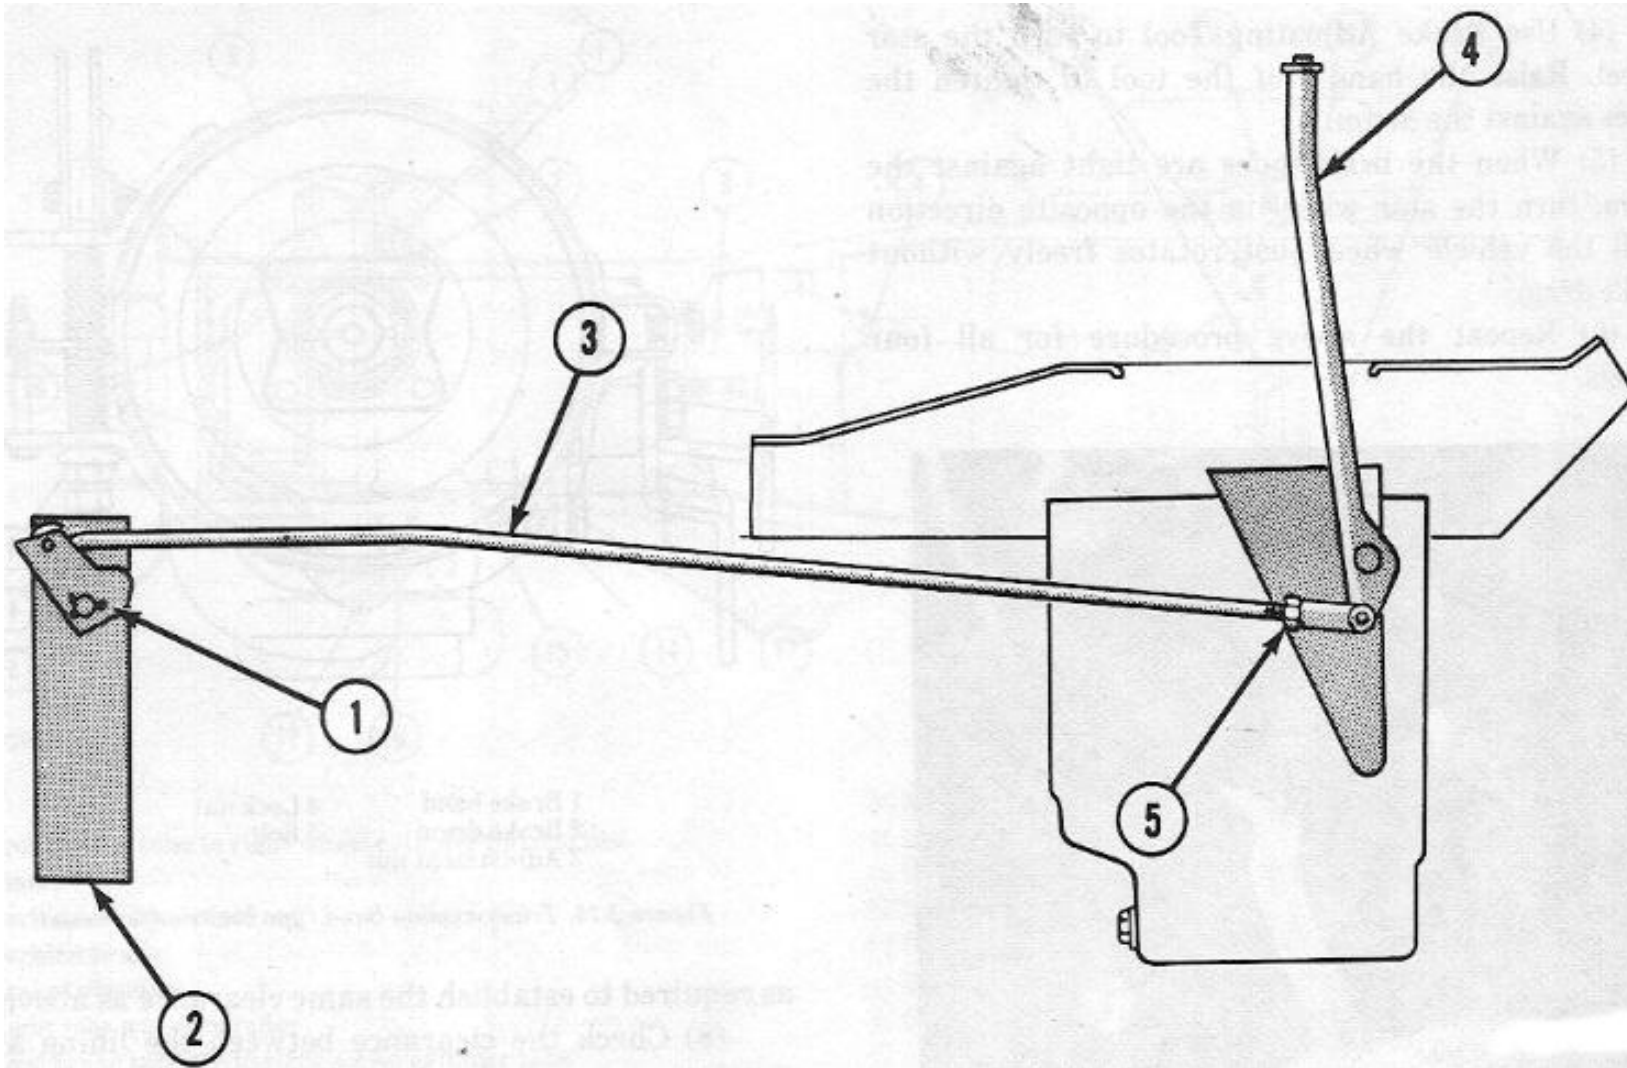

Figure 2-80. Handbrake linkage.
(8) Check the clearance between the lining and the drum at several points, Clearance should be approximately 0.015-inch at all points.
(9) When the adjustment has been completed, tighten the jamnuts on the adjusting J-bolt and the adjusting screw. Secure the anchor screw with locking wire, attaching the wire to the bracket in such a manner that it will not interfere with the anchor screw spring,
(10) Adjust the handbrake control rod before connecting it to the cam levers,
c. Adjust Hand brake Control Rod (Fig 2-80)
(1) With the brake control rod detached from the cam levers, loosen the nut at the yoke end of the brake control rod and turn the rod in the yoke until the eye of the rod is in alignment with the clevis pin holes in the two cam levers.
(2) Attach the control rod to the cam levers with the clevis pin and cotter pin.
(3) Tighten the nut against the yoke.
(4) With the brake band and control rod properly adjusted, the pawl should be engaged in the third to fifth notch of the sector for full application of the brake.